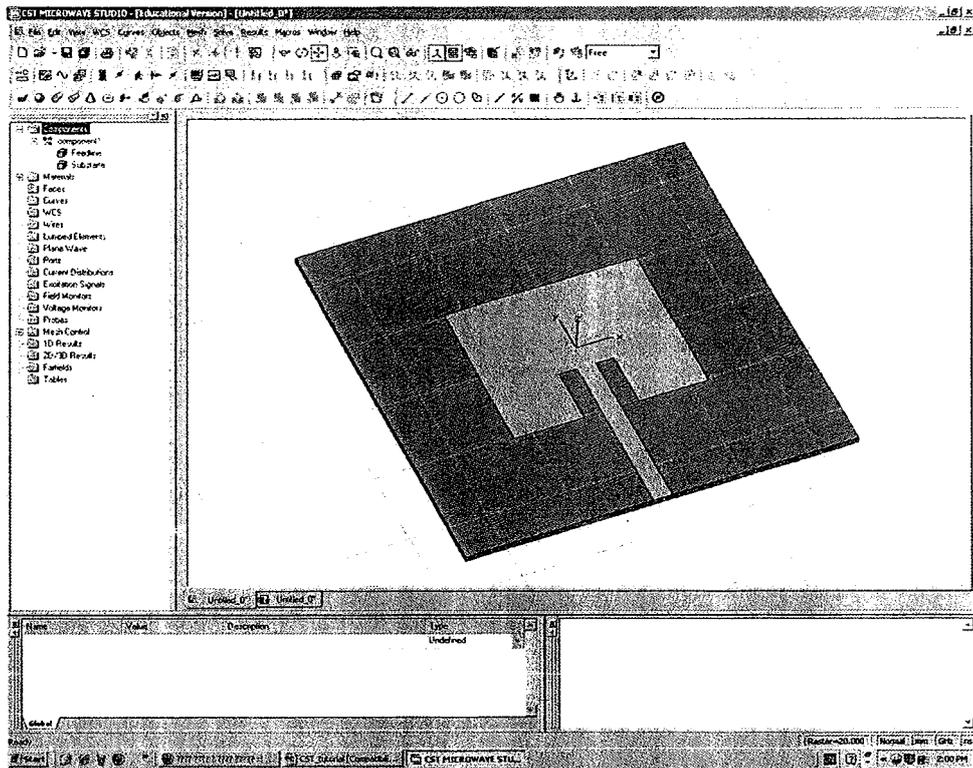

Fig.17 The feed line and the patch after merging
- c. Now they are merged together and become one component as shown in Fig.17